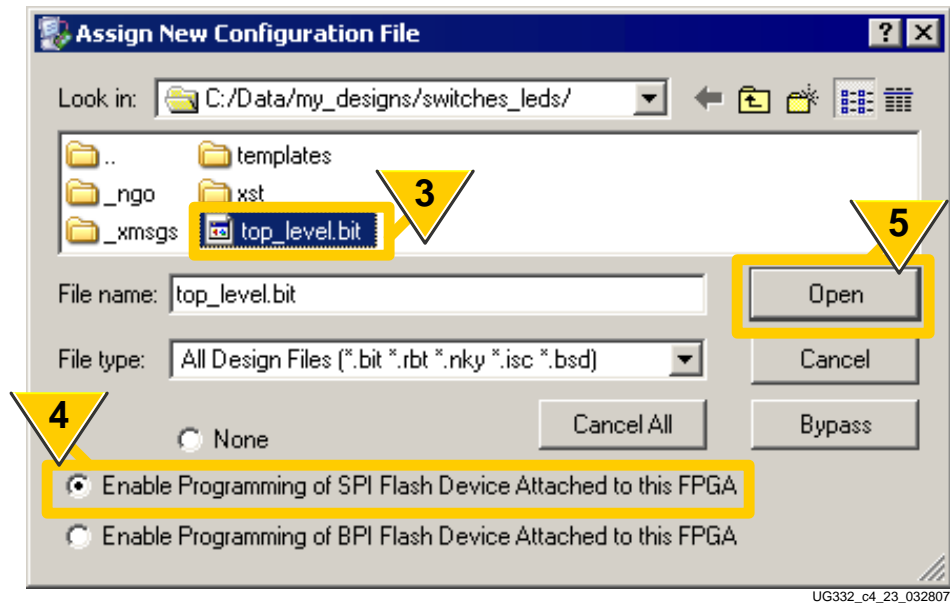

Figure 12-12: Select the FPGA Bitstream File and Enable SPI Programming
3. Select the FPGA bitstream file (\*.bit) to be programmed into the FPGA, as shown in Figure 12-12. This step is superfluous but required for iMPACT 9.1i. This step will be eliminated starting in iMPACT 9.2i. This file is *not* the special FPGA-based SPI programming application.